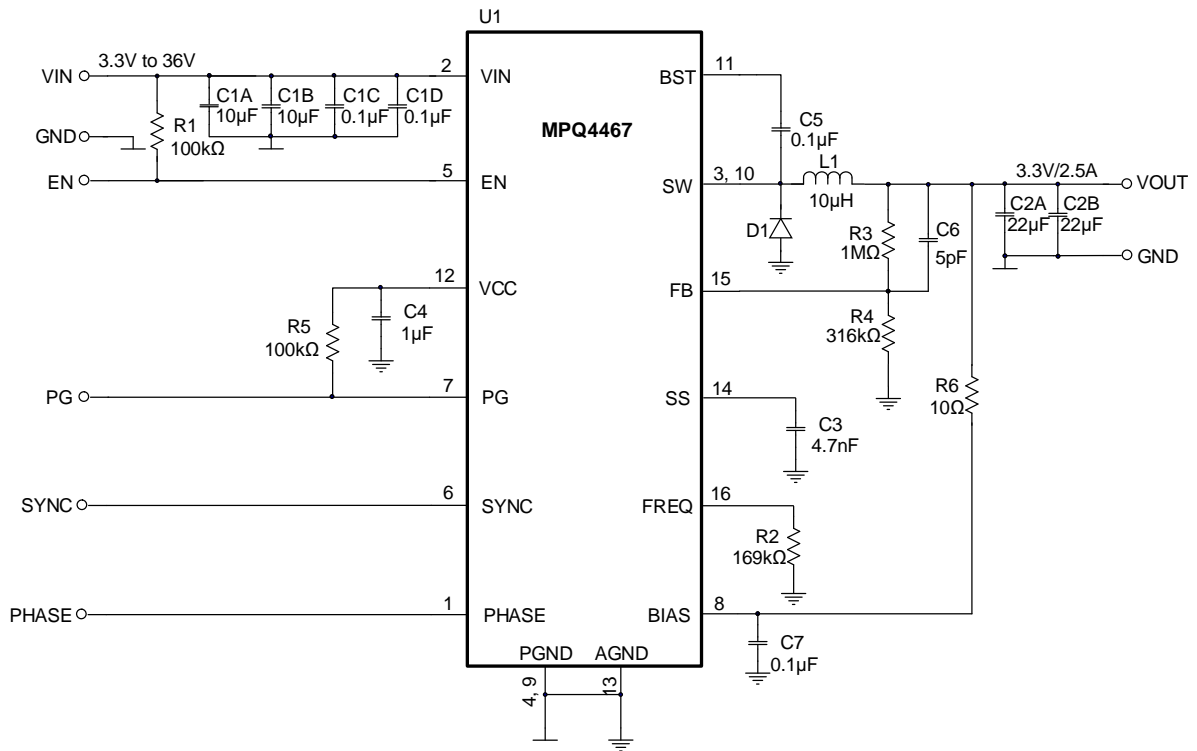

Figure 9: V_{OUT} = 3.3V, f_{sw} = 500kHz
7) The recommended PCB layout is based on Figure 9.